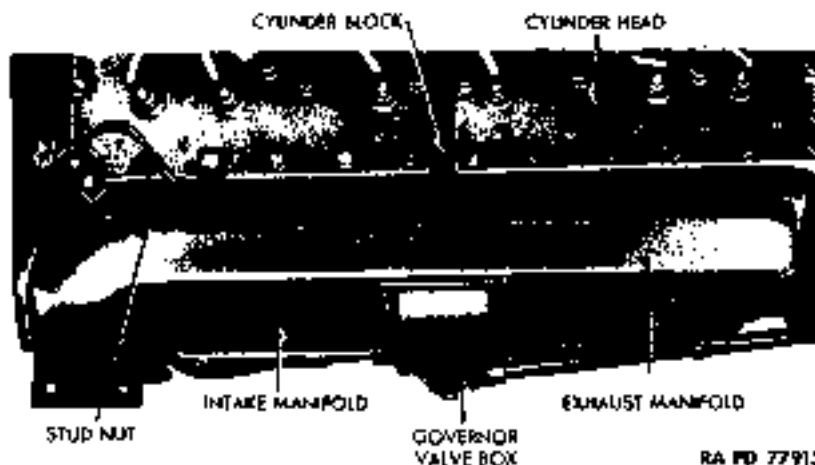

Figure 15 — Engine Manifolds Installed
(6) **DETACH GOVERNOR VALVE BOX** (fig. 15). Remove the two cap screws which secure the valve box to intake manifold. Pull valve box, gasket, and attached carburetor free of intake manifold.
(9) **REMOVE MANIFOLDS AND GASKETS** (fig. 15). Remove the 14 stud nuts and flat washers which hold the intake and exhaust manifolds to the cylinder block, and remove manifolds and gaskets through cab skirt opening.
(1) **ATTACH GASKETS AND MANIFOLDS TO CYLINDER BLOCK AND CONNECT EXHAUST PIPE** (figs. 15 and 37). Use seven new gaskets. Slide end of exhaust manifold through the engine inspection plate opening and over exhaust pipe, and fit manifolds to the engine block. Secure manifolds to block with stud nuts and flat washers. Connect exhaust pipe to manifold.